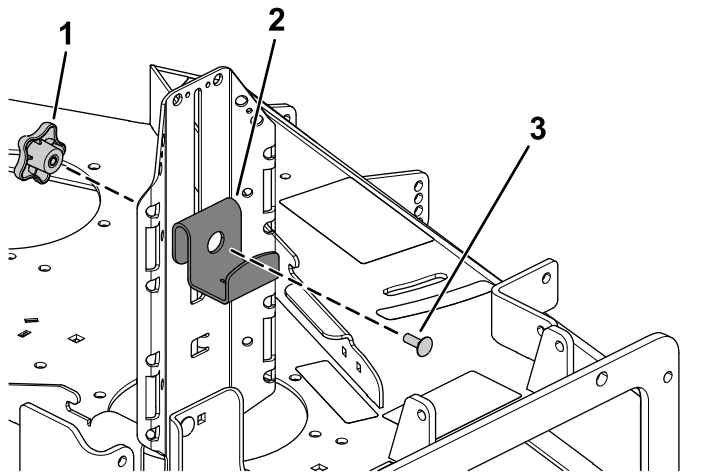

Figure 6
- Secure the top bracket to the bucket-holder mount using the knob and a carriage bolt (5/16 x 7/8 inch) as shown in Figure 6.